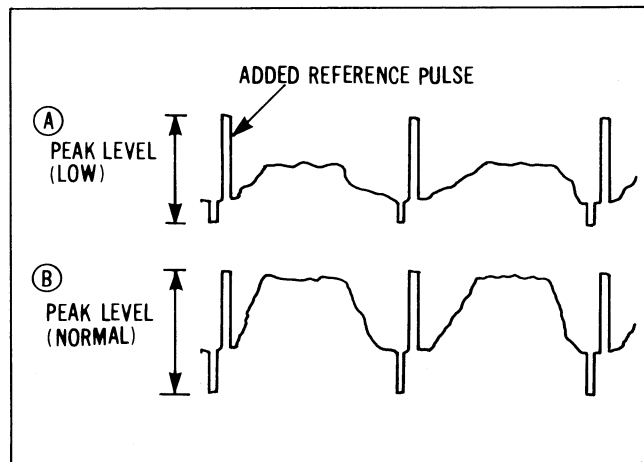

Figure 2-62
Figure 2-62 shows examples of the same video signal with two different amplitudes. In example (A) the amplitude is low. In example (B) the amplitude is normal. The reference pulse always has the same amplitude, but because the sync amplitude in example (A) is lower than in example (B), the peak level is also lower. This low peak level is detected and the gain of the AGC amplifier is increased until the peak level reaches that of example (B).